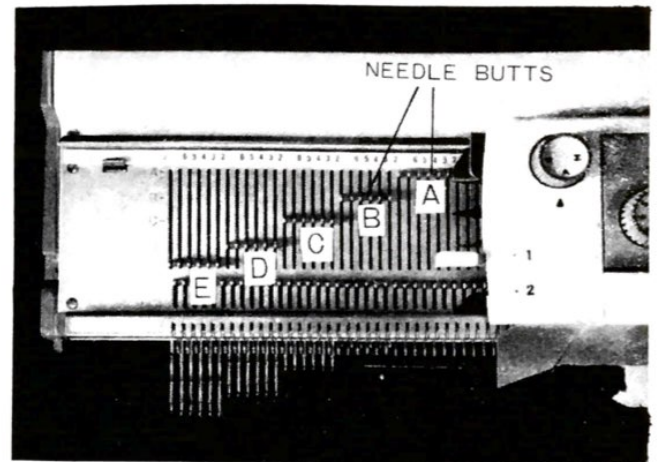
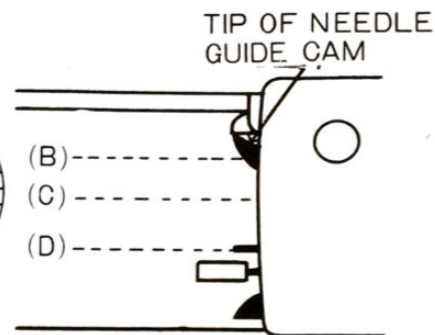

Fig. 3
Fig. 9B
(Fig. 3)
This means that needles in any of the Positions (B), (C) or (D) — (see Fig. 3) — will knit, and further when setting the Return Cam Lever to No. 2, needles in Position (E) will also knit. (Fig. 9B)